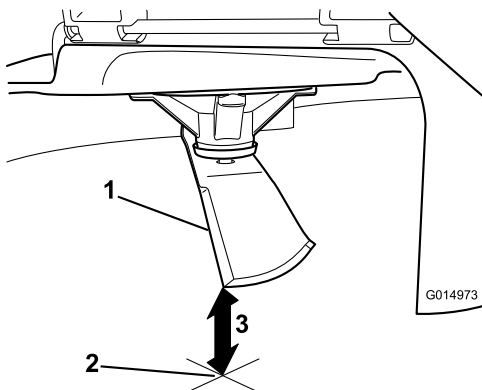

Figure 93
3. Measure from the tip of the blade to the flat surface (Figure 93).